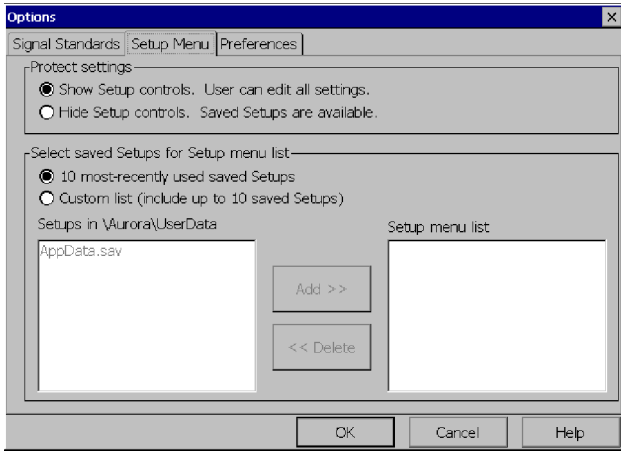

Figure 3-71: Specifying the List of Setups
3. Select the **Setup Menu** tab. See Figure 3-71.